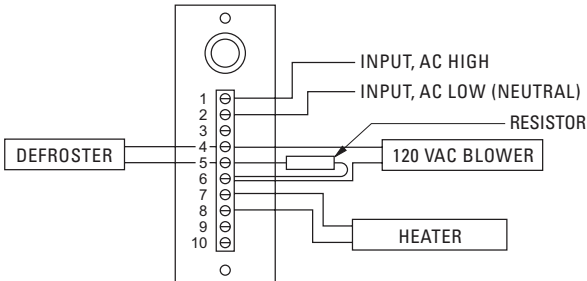
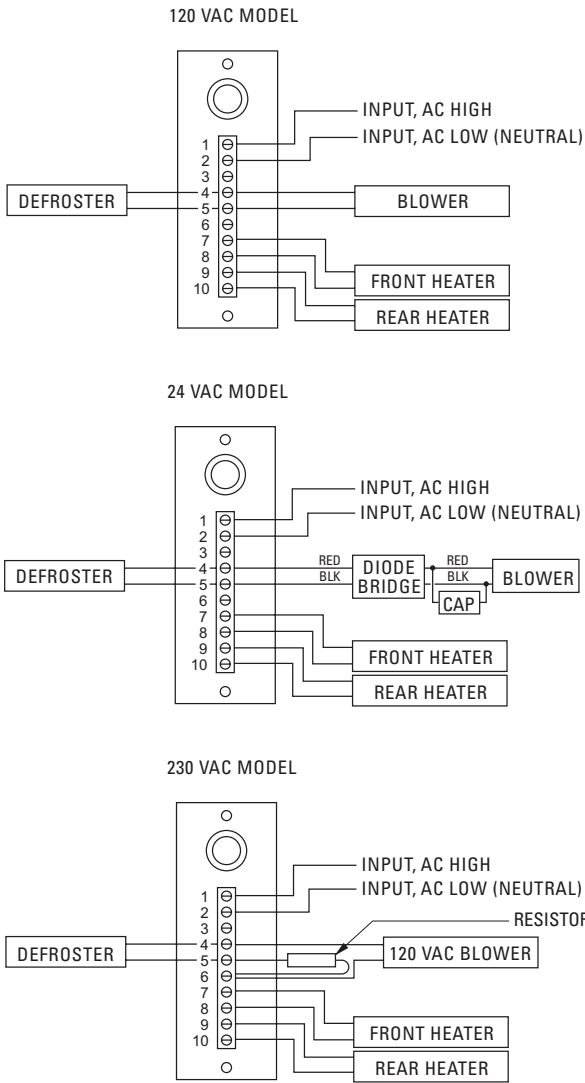

Figure 5. EH3512 Series Wiring Diagram
Figure 6. EH3515 Series Wiring Diagram
9. If the enclosure has accessories that require power, you will need to access the PC board. To remove the cover, insert a screwdriver into the slot on top of the cover and lift off the cover. Connect the power for the accessories to pins 1 and 2 on the PC board (refer to Figure 4, Figure 5, and Figure 6 for information about accessory wiring). If required, connect the ground to the stud on the bottom of the enclosure just in front of the PC board. Replace the PC board cover, making sure it snaps securely back into place.